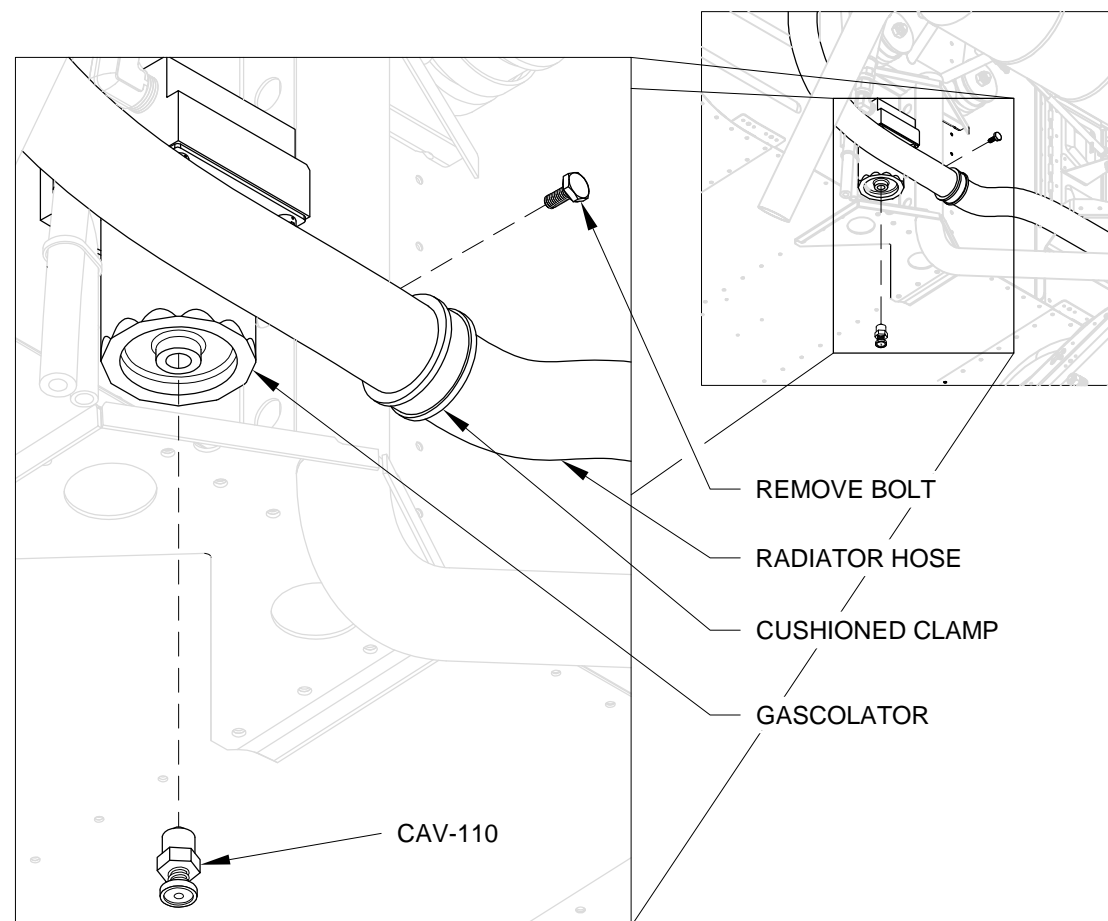

FIGURE 2: DRAIN FUEL
Step 3: Remove the large cushioned clamp attaching the radiator hose to the nose gear leg and secure the hose so it's out of the way. See Figure 2.